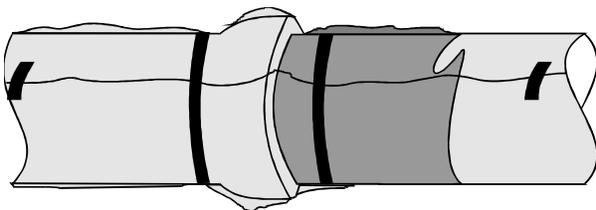

Figure 5
Make a second pass with the tape around the circumference immediately in front of the socket (Figure 5). These two bindings ensure a reasonable snug fit of sleeving in the joint area.
17. Tape around the circumference of the pipes to complete the protection. See sub-clause 10 (Figures 5 and 6).